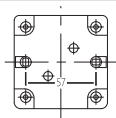
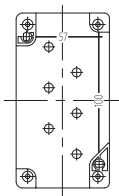

Figure 1 Installation dimensions of NPH1-1
Figure 3 Installation dimensions of NPH1-3
1) See Figure 1 - Figure 3 for installation dimensions.